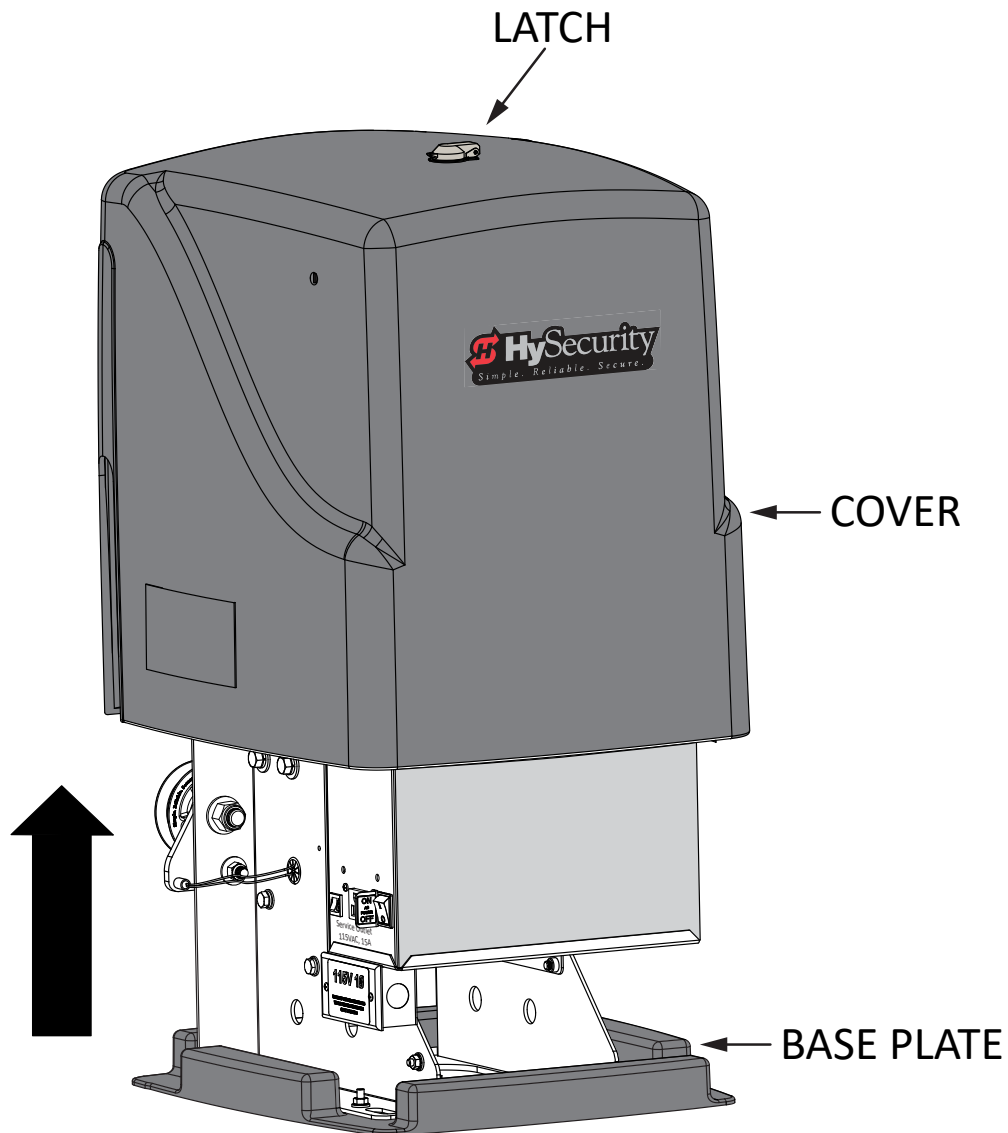

Figure 9. Unpacking the Operator
4. Mount the operator with four ½ - 13 x 3½-inch concrete anchors as shown in Figure 9.